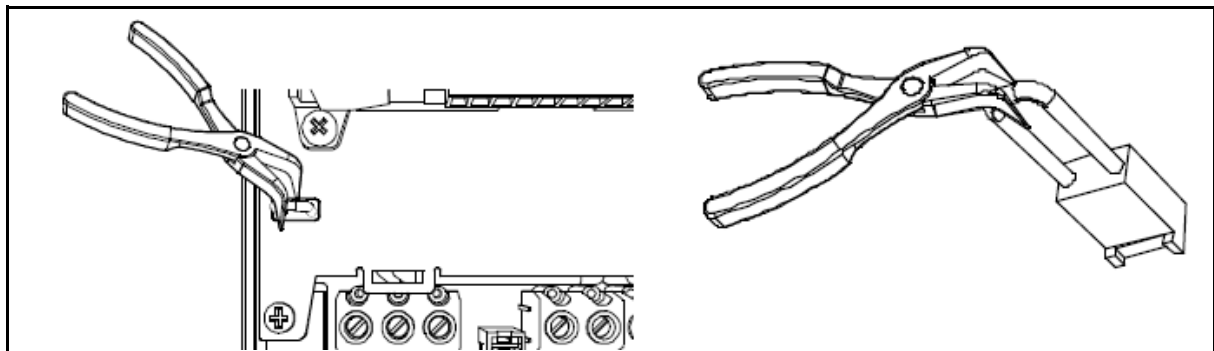

Figure 43. Removing the jumper, MR5 as example
**2** Disconnect the RFI-filters from ground by removing the EMC-jumpers using long-nose pliers or similar. See Figure 43.